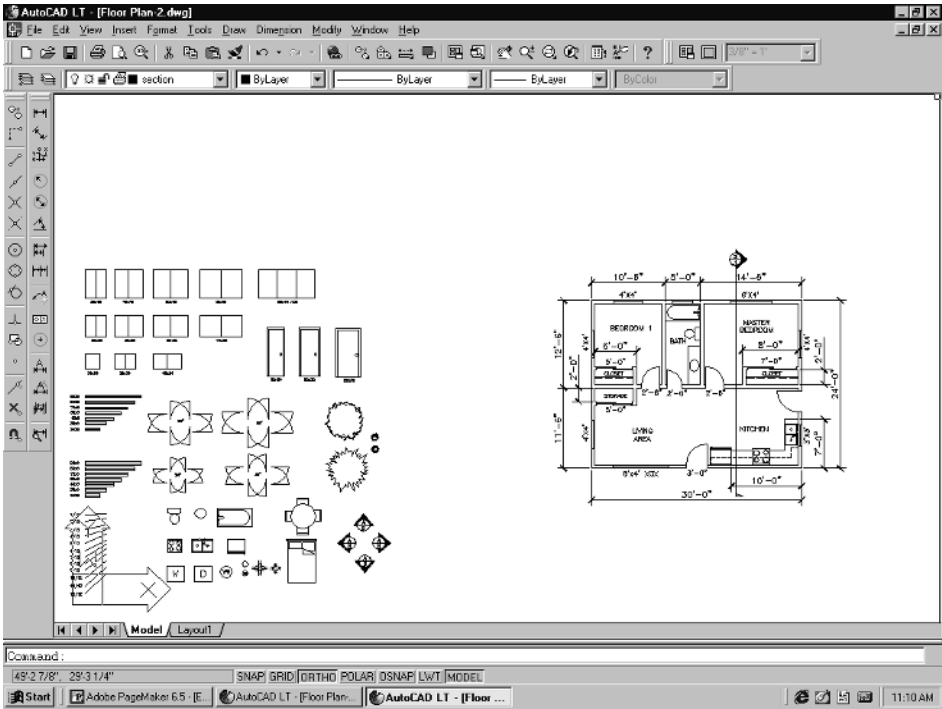

Figure 3-3
2. If your drawing is in paper space, the first thing you need to do is to change from paper space to model space. To do this, go down to the bottom status bar and double-click on the **TILE** button for LT 98, or select the **Model** tab for LT 2000. This will flip you into the regular model drawing screen. The border will disappear, since it was drawn in paper space. Now you will see a number of the blocks we provided in the lower left-hand corner of the screen, and your floor plan as shown in Figure 3-3.